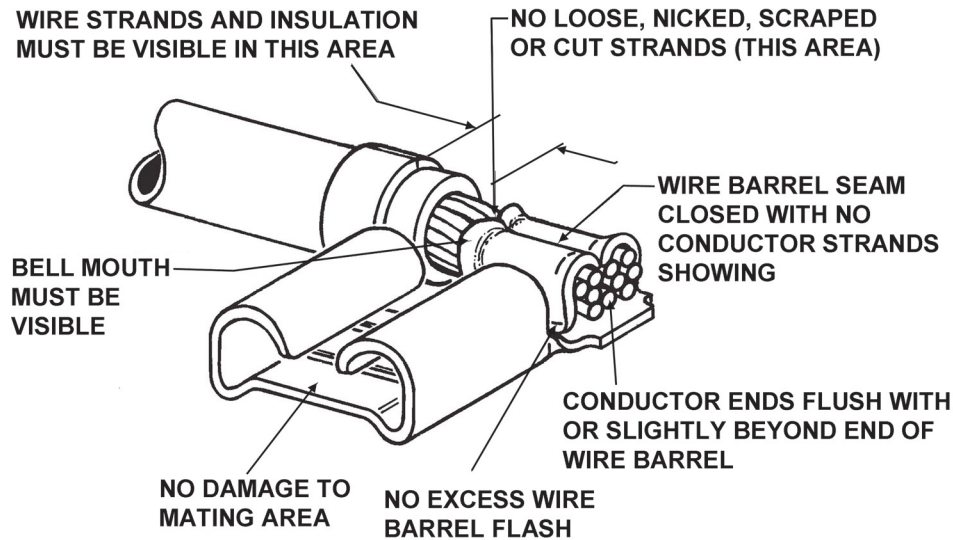

Figure 7-4. Flag Terminal Inspection Criteria
1. Ensure the coil (36) matches current design specifications. The coil must exhibit red or blue epoxy compound and part number 10-391088. Discard all old style coils that do not meet this description. In service, blue coils routinely discolor to olive drab, deep red, or black. Such discoloration is not cause for rejection.
2. Visually inspect the coil (36):
- a. Discard coils with damaged leads, loose terminals, or terminals that do not meet criteria shown in Figure 7-4.
- (2). If the 0.2485 inch gauge pin enters the bore deeper than 0.120 inch, the bore exceeds allowable limits. Replace the flange.
- (3). Fluorescent penetrant inspection is required after stop pin installation.
- 7. For covers (6) installed on magnetos part numbers 10-349220-1, 10-349220-2, 10-349260-1, 10-349260-2, 10-349350-1, and 10-349350-2 which do not display a letter **M** stamped on the nameplate after the part number, modify the magneto cover as specified in Section 8-2.1.
- 8. Inspect retard/tach and lead assembly (13) for damage. Inspect the terminals for proper attachment to leads, per Figure 7-4. Examine leads for damaged insulation. Replace damaged leads.